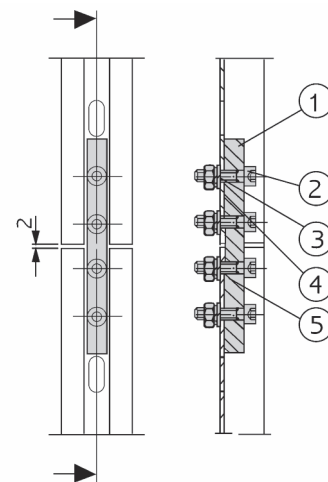

Fig. 5 Connection of two single rail fall protection ladders
Place the next section of ladder in place that similarly has preassembled wall mounting brackets, ensure ladder is in a perpendicular position or proceed as described above, and screw the ladder loosely at first. Screw both sections of ladder together (Fig. 5), butt connector (1) with screws (2), washers (3), circlips (4) and nuts (5). To allow for changes in length that arise due to temperature fluctuations, clearance of 2 ± 1 mm must be left on the ladder joints in the case (Fig. 5). Screw ladder tight.